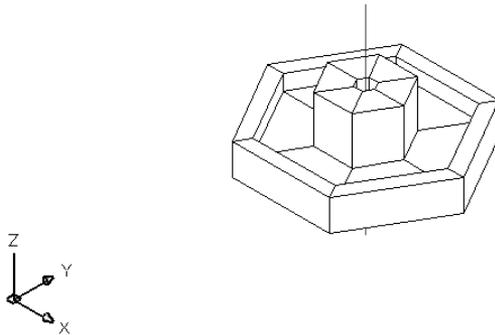

Figure 23-26: The revolved surface.
11. Save your drawing. It should look like Figure 23-26.